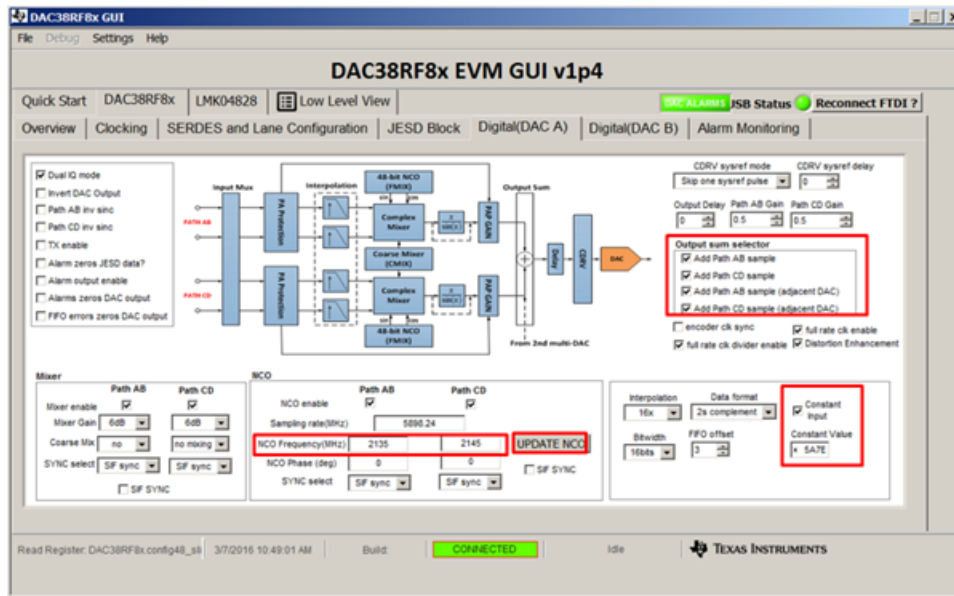

Figure 12. Digital Setting of DAC A
11. Set the Digital(DAC A) tab as shown in Figure 12. Two NCOs are enabled with frequency settings of 2135 MHz and 2145 MHz. Enable the constant input data block, and then set the value to 0x5A73, which is -3 dB back off from the full scale, to avoid digital saturation. The summation block adds the DAC A and DAC B outputs of up to two DUCs outputs, which provide four tones output at DAC A. Click on the UPDATE NCO button to resync the NCO output.